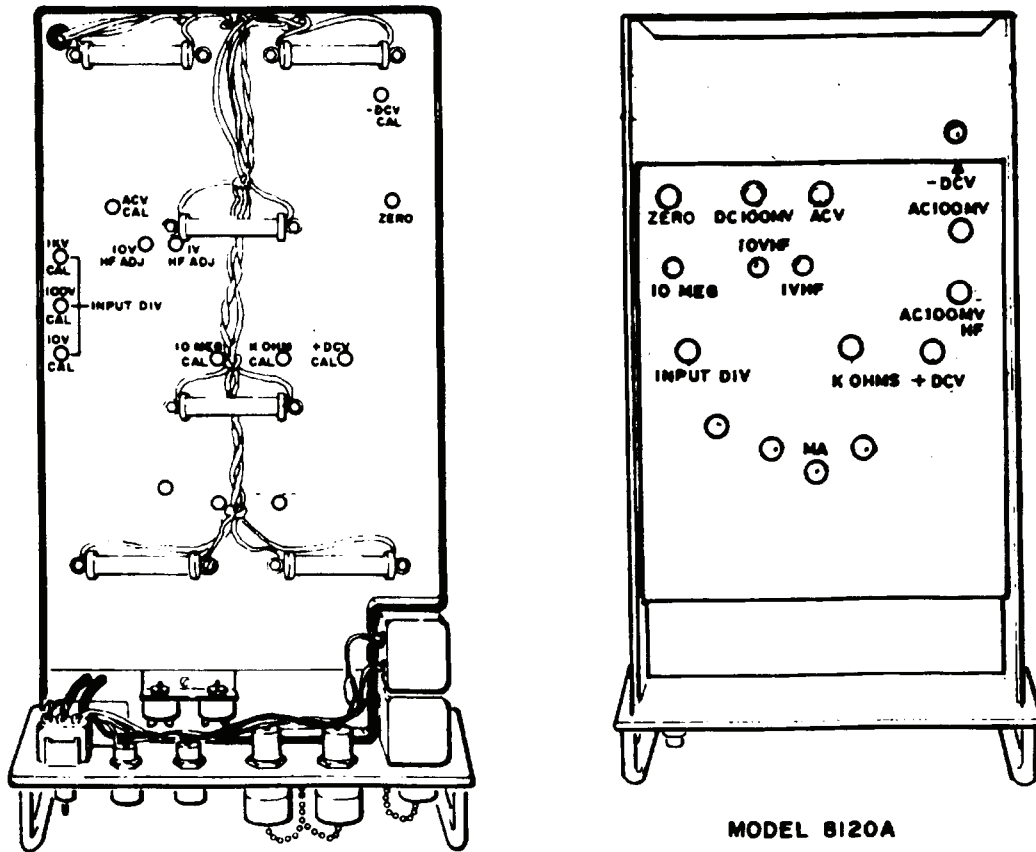

Figure 1. Test instrument - bottom view.
- e. Short **INPUT HI** and **LO** terminals. If TI does not indicate between +.0001 (+00.01) and -.0001 (-00.01) adjust **ZERO** (fig. 1) (for model 8120A, adjust **DC ZERO** (front panel) control to center range, and adjust **ZERO** (fig. 1) until TI indicates .0000 (00.00).